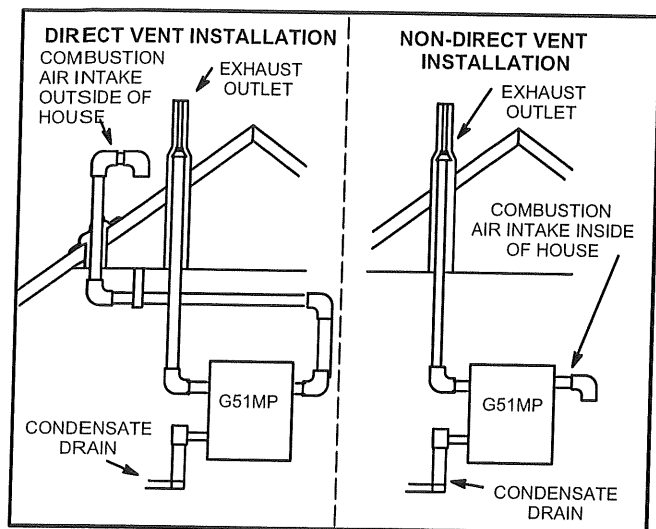

FIGURE 2
*NOTE - In Direct Vent installations, combustion air is taken from outdoors and flue gases are discharged outdoors. In Non-Direct Vent installations, combustion air is taken from indoors and flue gases are discharged outdoors. See figure 2 for applications involving roof termination.*